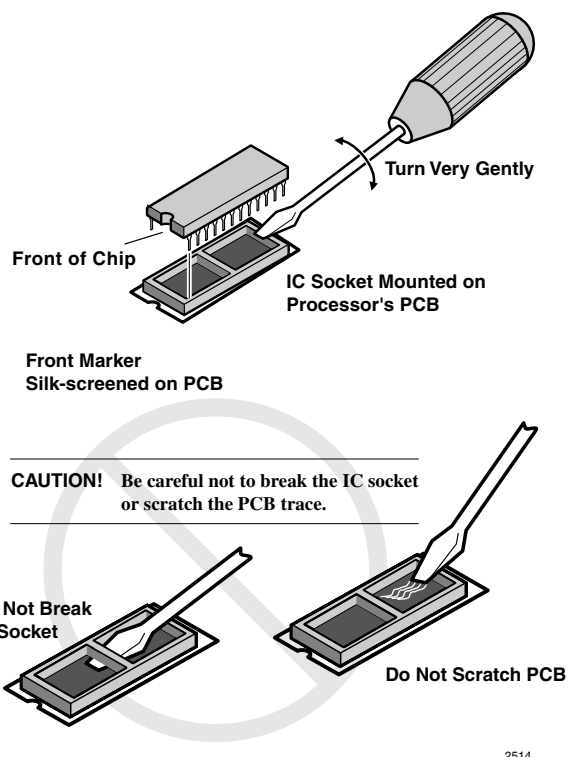

Figure 6 ROM Removal
4. Use a small screwdriver to carefully remove the four ROMs (see Figure 6) or use your fingers to gently remove the flash memory.